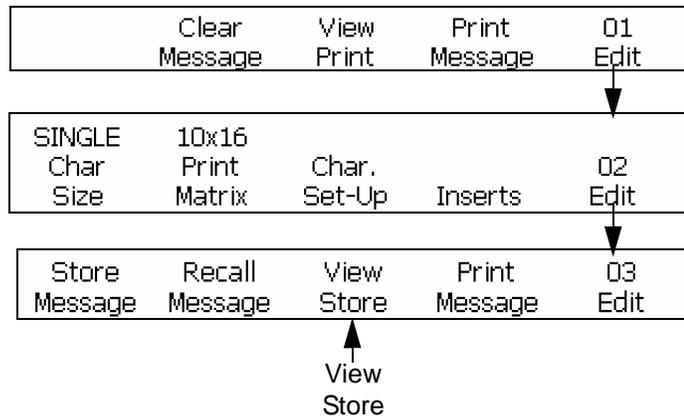

Figure 6-63: Accessing Frame <03 edit>
- 1 Begin in the frame <03 Edit>. Refer to Figure 6-63 on page 6-83.